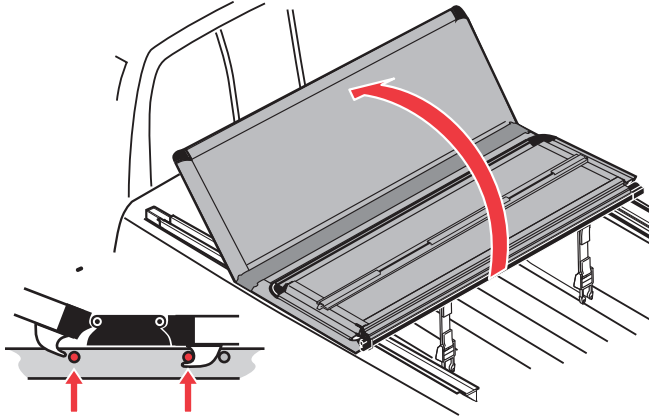

Figure 19
- (d) Visually confirm that the front latches are aligned with the pins in the side rails and gently lower the cover to ensure that nothing hits and causes damage. Slight misalignment can be fixed by making sure mounting hooks in center panel are fully seated against retaining pins in side rails. (Fig. 19)